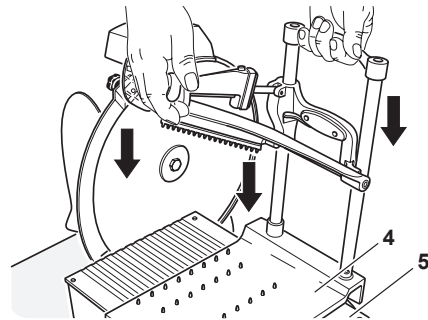

Figure 15-3
1. Reposition the product holder (4).
2. Place the product holder (4) complete with pusher (3) on the carriage (5) (Figure 15-3).